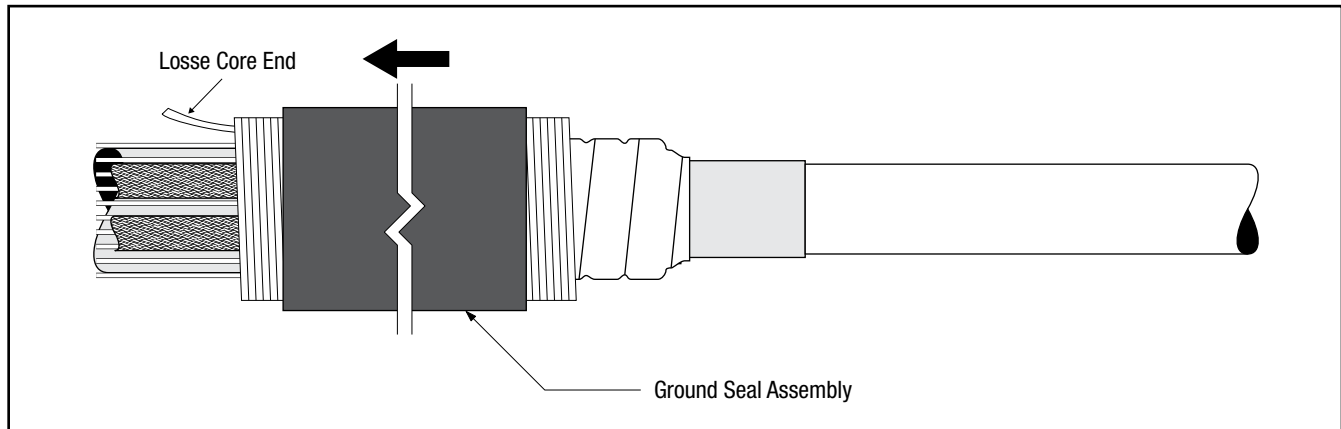

Figure 20
- 6.1 Slide the ground seal assembly (this is the cold shrink tubular assembly on the larger core) onto the cable jacket, loose core end first. (Figure 20)